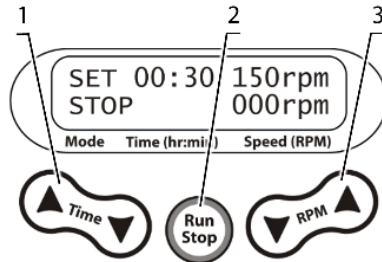

Figure 2. Control panel of PSU-10i
- 5.1.4. Set the required operation time in hours and minutes (increment 1 min) using the ▼ and ▲ **Time** keys (fig. 2/1). Hold the key to change values faster. Set time appears on display on the top row in the middle.
- 5.1.5. Set the required shaking speed (increment 10 rpm) using the ▼ and ▲ **RPM** keys (fig. 2/3). Hold the key to change values faster. The set speed appears on display on the top row on the right.
- 5.1.6. Press the **Run Stop** key (fig. 2/3). The platform starts rotation, indication **RUN** appears on display and the elapsed time and the current speed show on display in the middle of the bottom row.